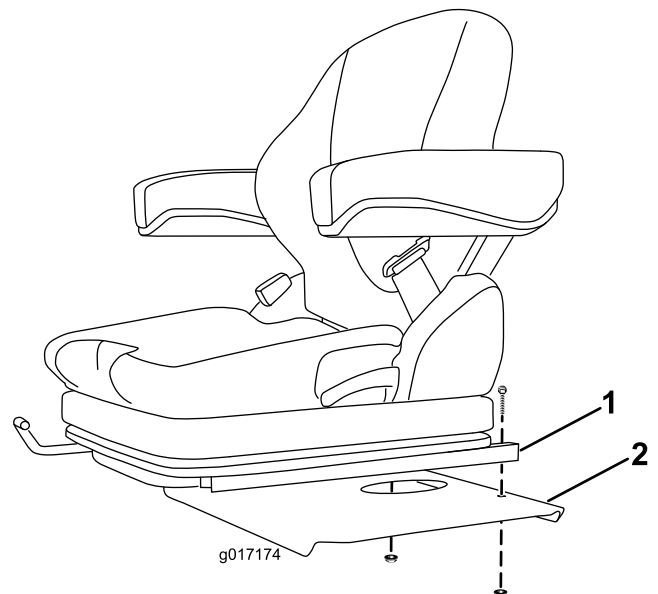

Figure 8
1. Mount the rear of each seat slide to the seat plate with a bolt and flange nut (Figure 8).